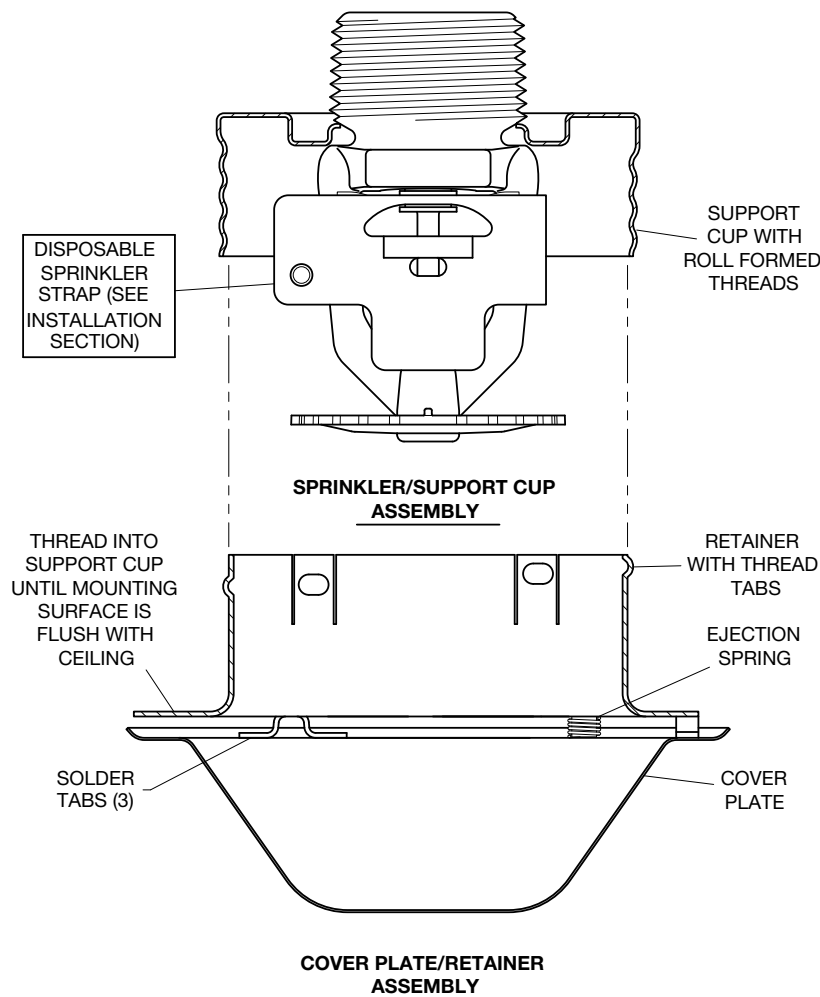
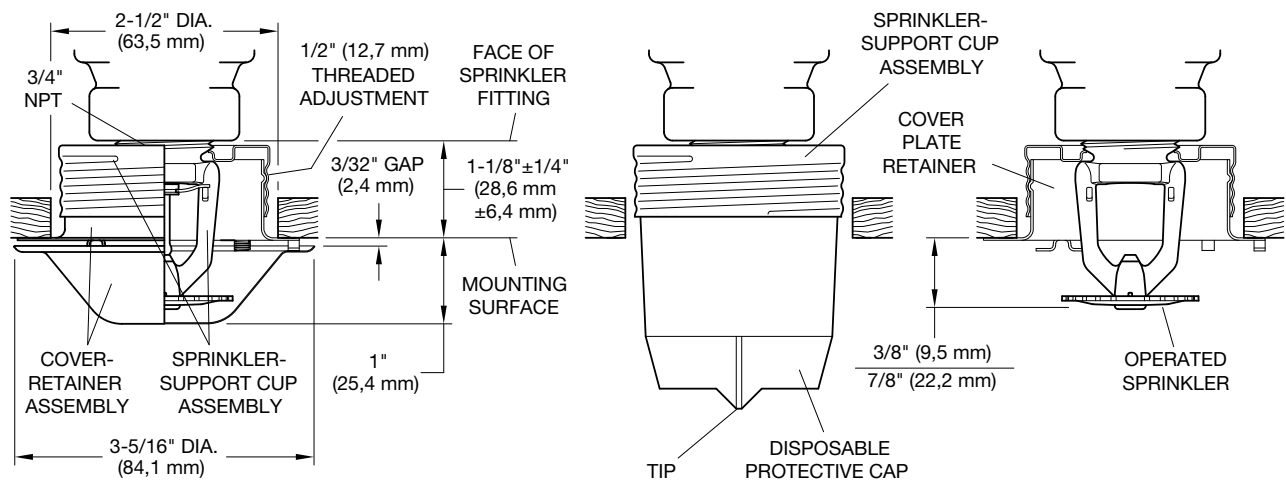

FIGURE 5
FIGURE 6
- For concealed pendent sprinkler installations, the sprinklers relative to the ceiling mounting surface are to be installed per Figure 6.
The sprinkler has been provided with a Sprinkler Strap similar that shown in Figure 5 for the concealed sprinkler assembly. Do not remove the Sprinkler Strap until the sprinkler system is to be placed in service. As long as the Sprinkler Strap remains in place, the system is considered to be "Out Of Service".
The sprinkler has been provided with a Sprinkler Strap similar that shown in Figure 5 for the concealed sprinkler assembly. Do not remove the Sprinkler Strap until the sprinkler system is ready for service. As long as the Sprinkler Strap remains in place, the system is considered to be "Out Of Service".
Do not remove the Sprinkler Strap (Fig. 5) until the sprinkler system is to be placed in service.
As long as the Sprinkler Strap (Fig. 5) or the Protective Cap (Fig. 6) remains in place, the system is considered to be "Out Of Service".
When properly installed, there is a nominal 3/32 inch (2,4 mm) air gap between the lip of the Cover Plate and the ceiling, as shown in Figure 6. This air gap is necessary for proper operation of the sprinkler by allowing heat flow from a fire to pass below and above the Cover Plate to help assure appropriate release of the Cover Plate in a fire situation. If the ceiling needs repainting after sprinkler installation, exercise care to ensure that the new paint does NOT seal off any of the air gap. Failure to do so may impair sprinkler operation.